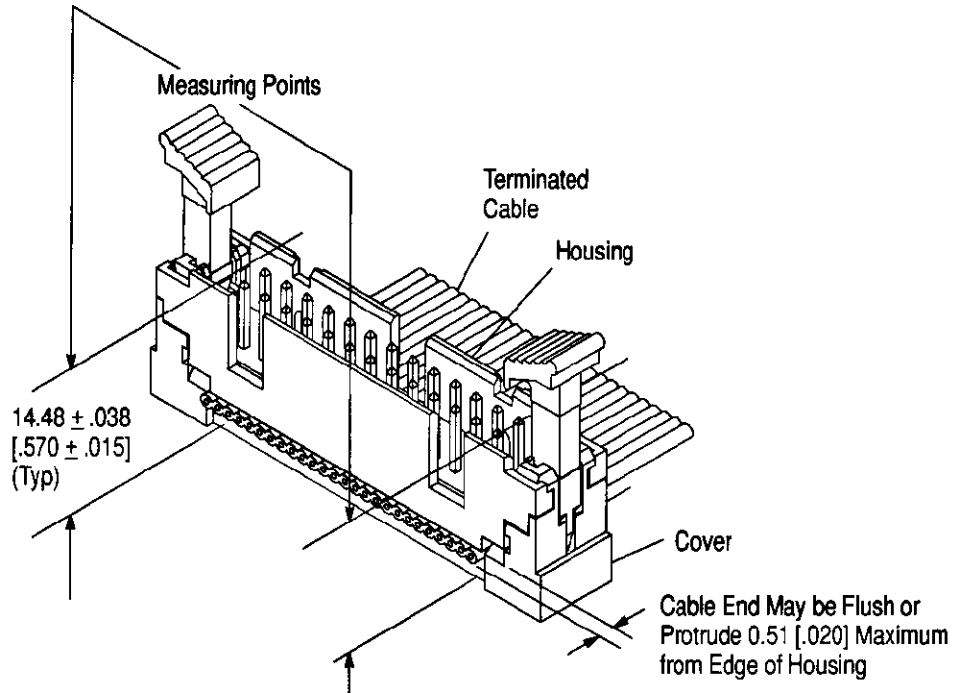

Figure 6
- Change dimensions in Figure 6
The cable must be placed in the slot between the cover and the housing and terminated with the AMP tooling referenced in Section 5 to the specified termination height. If making an end-of-line application, the cable end must be even and within dimensional limits. In-line connectors must be positioned at your pre-determined location with connectors being as close as the termination tool will allow. See Figure 6.